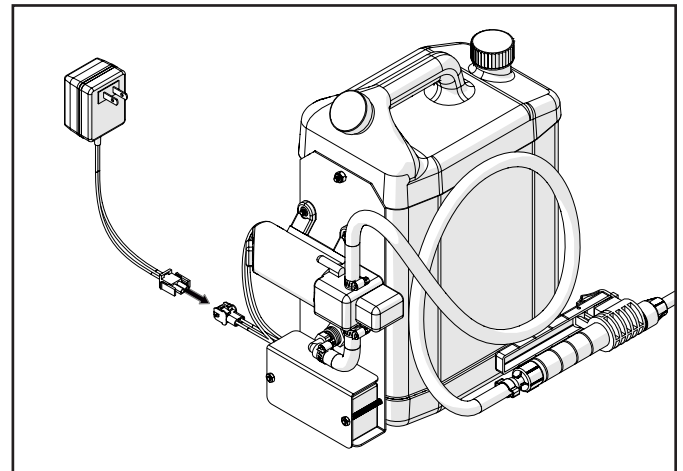

Figure 2
4. Plug the charger plug into the battery plug as shown in Figure 2.